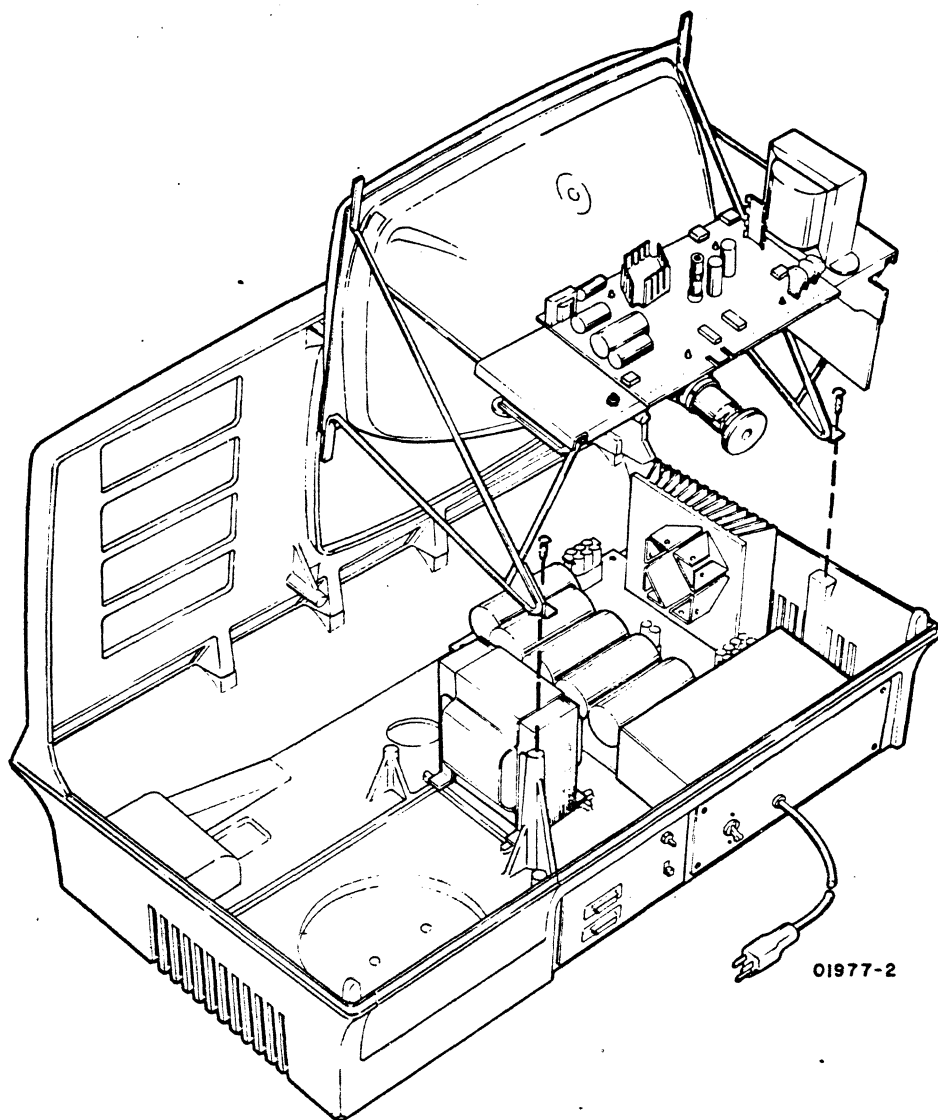

Figure CRT15. Video Module Removal
- 6) Grasp video module by mounting frames with both hands and carefully withdraw entire module from cabinet (see figure CRT15). Check to see that neck of crt or mounting frame is not caught on cabling.